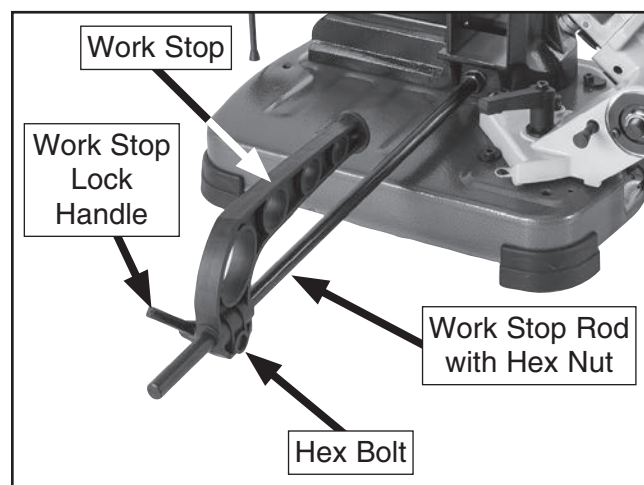

Figure 9. Work stop installed.
1. Thread work stop rod with hex nut into vise base (see **Figure 9**).
2. Slide work stop onto work stop rod (see **Figure 9**).
3. Insert hex bolt into work stop and thread work stop lock handle onto hex bolt (see **Figure 9**).